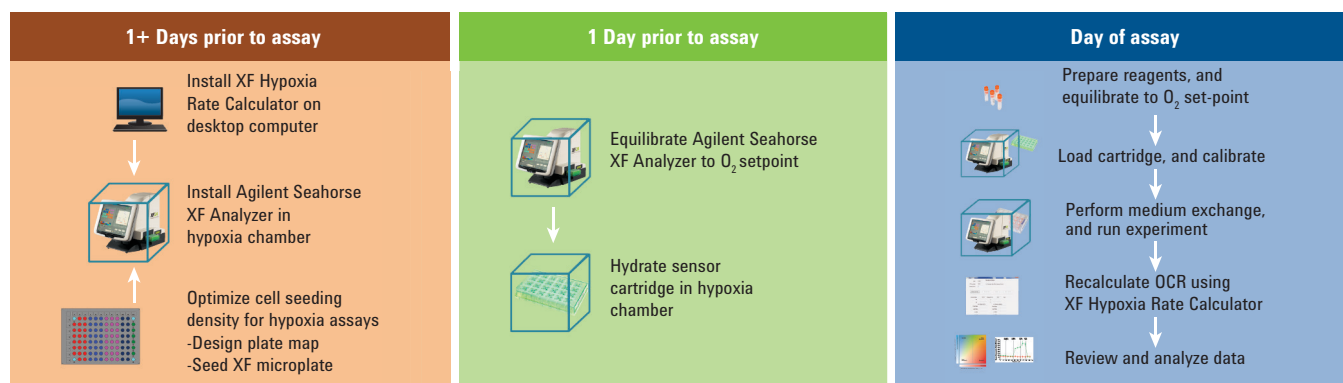

Figure 1. Hypoxia assay workflow.
3. Mix-wait-measure times may need to be optimized based on the cell density. Agilent recommendations are outlined in *Running the XF Hypoxia Assay* (Figure 1)